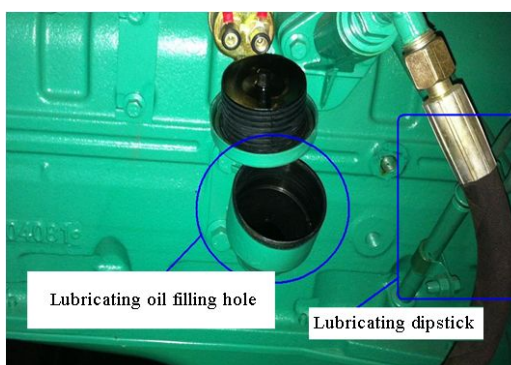

Fig.3-2
- the level of the lubricating oil is in the normal range (as shown in Fig.3-3) (if not in the normal range, add the lubricating oil from the filling hole, as shown in Fig.3-2)